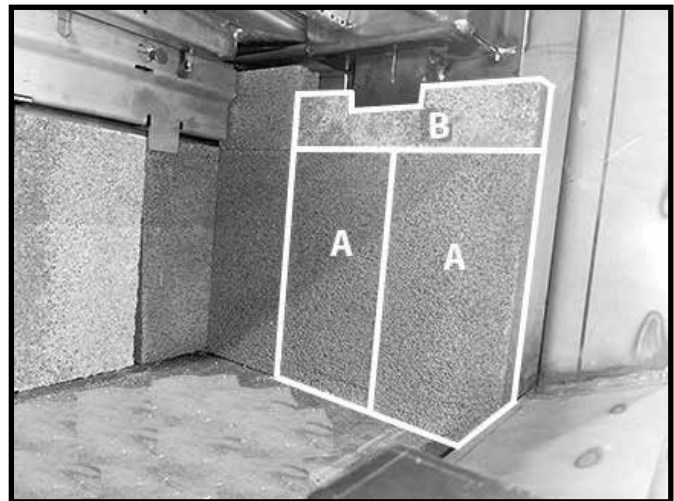

Figure 29: Right side wall B brick and final A bricks.
4. Place the "B" brick up under the baffle tube box then insert two "A" bricks while holding the "B" brick in place (Figure 29).